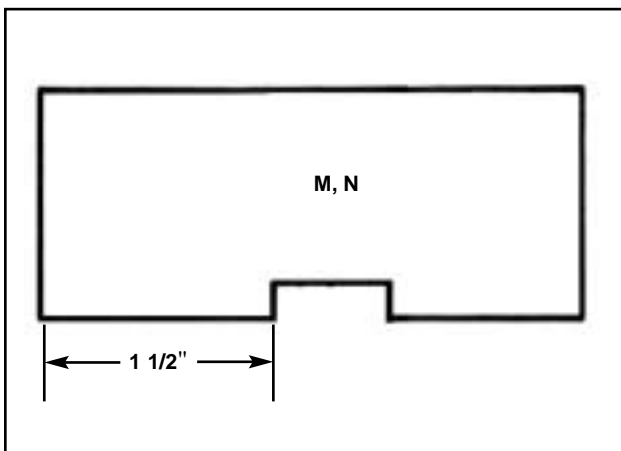

Figure 9
12. Cut 3/4" wide by 1/4" deep dados in boards (M) and (N). See Figures 9 and 10.